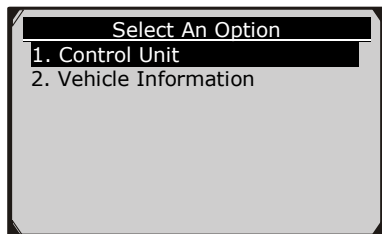

Figure 6.17
- 10) Select a desired item for information on the option menu screen. (Figure 6.17)